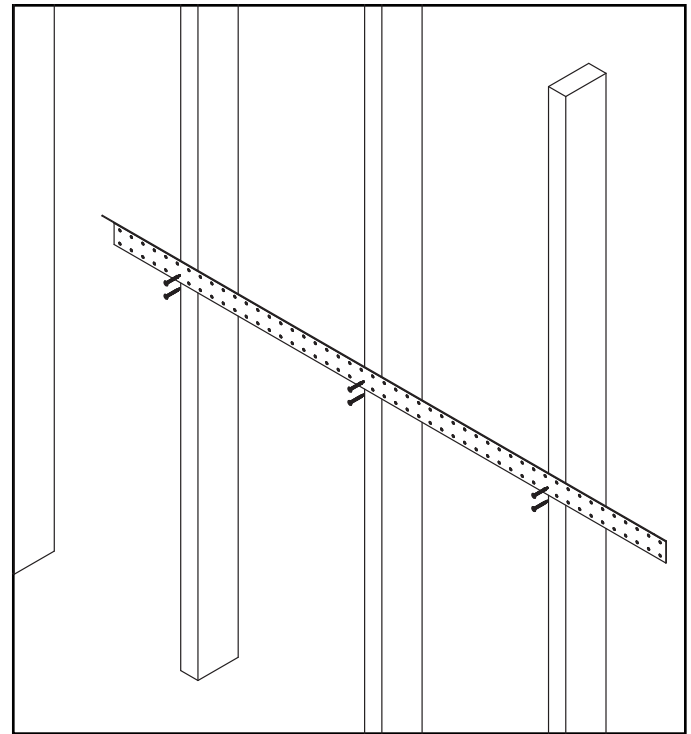

Figure 3 Insert Wood Screws
4. Insert the supplied #8 x 2-1/2" wood screws at the marked hole locations, two screws per stud location as shown below. See Figure 3.